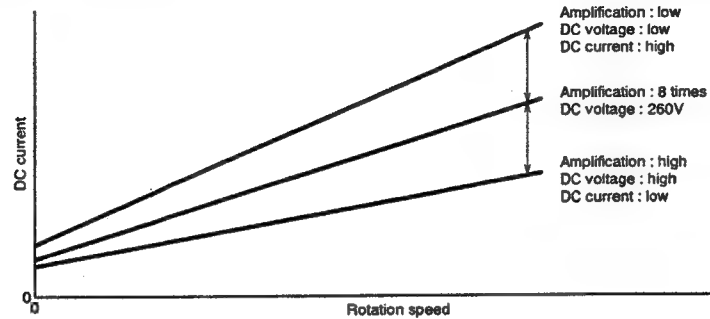

Fig. 8-8
- The filter consisting of R201 and C202 removes high harmonic components from the voltage generated from the DC current flowing to the detection resistor, and R205 and C206 average the voltage and supplies it to OP1 pin ⑤ OP1 forms a non-inverting voltage amp. circuit together with the peripheral elements.
- The micro computer stores the set values which vary according to the rotation speed as shown in Fig. 8-8. When the DC current level exceeds the set value, the micro computer enters the overload control state. The compressor motor is controlled in the same way as in external judgement described previously.